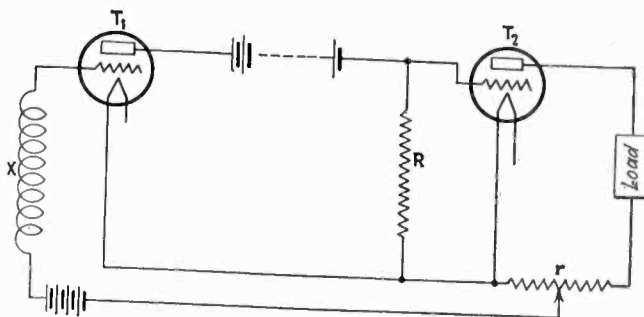

Fig. 1—Fundamental circuit of the vacuum tube timer
In developing a successful timing apparatus embodying the above instrument the problems were (1) to devise a method of opening and closing the circuit to the impulse counter in a time appreciably less than .01 second; and (2) to make the circuit sensitive enough to be actuated by very small currents or voltages. Mechanical relays3 have been used to accomplish such purposes, care being taken that the same relay acted to open and to close the circuit in order to eliminate the time of action of the relay. However, the vacuum tube relay herein described accomplishes the purpose simply, in less than .002 second and is much less likely to get out of adjustment. Figure 1 shows a diagram which illustrates the principle of the relay.